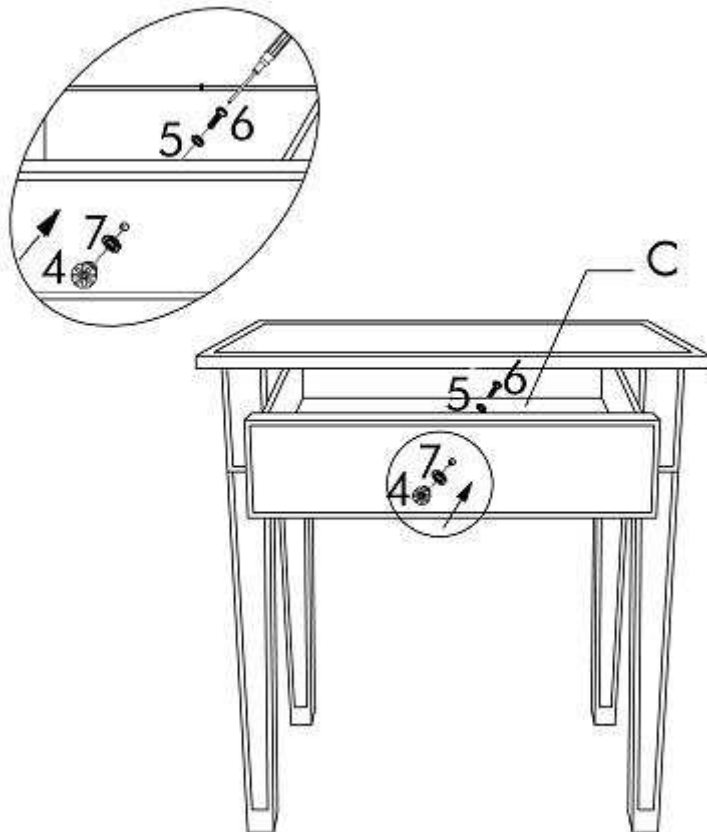

Figure 2
Step 3 Insert drawer (C) to the assembled unit.
Step 4 Attach Knob (4), Plastic Washer (7) to the front panel of drawer (C) using Small Bolts (6) and Small Washer (5). Tighten with screwdriver (not included) as shown in figure 2.